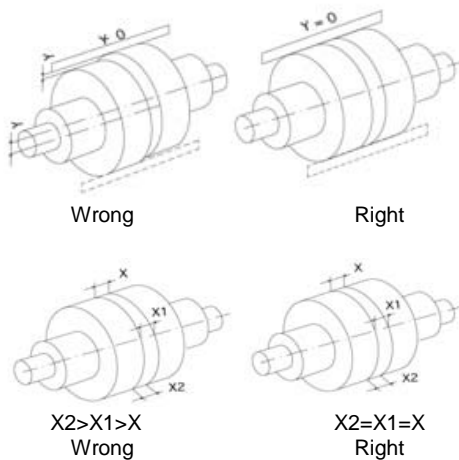

Figure 4: The Control of the Coupling Alignment in Horizontal and Vertical Planes
1. Angular Misalignment (Figure 4)
2.Parallel Axis Misalignment (Figure 4)